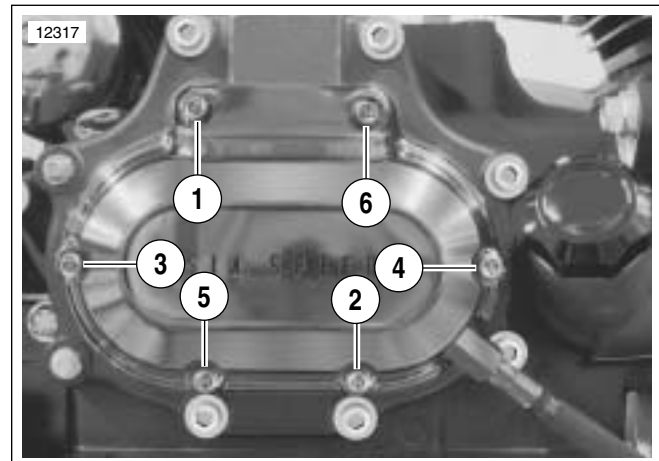

Figure 2. Clutch Release Cover Screws
6. See Figure 2. Remove six screws that hold clutch release cover in place. Remove clutch release cover and discard cover gasket.